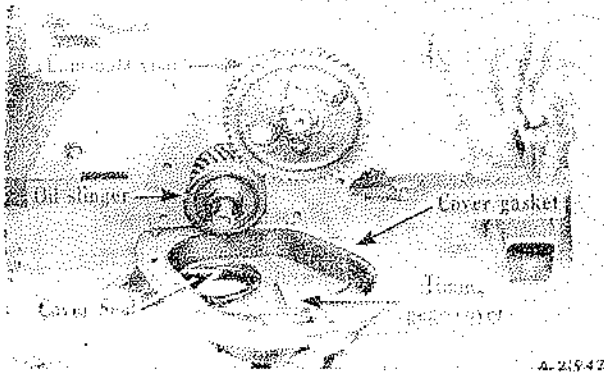

Fig. 21 - Gear case cover removed showing timing gear details
2. Remove nuts and cap screws from engine gear case cover, remove gear case cover and gasket. Remove crankshaft oil slinger from end of shaft (Fig. 21).